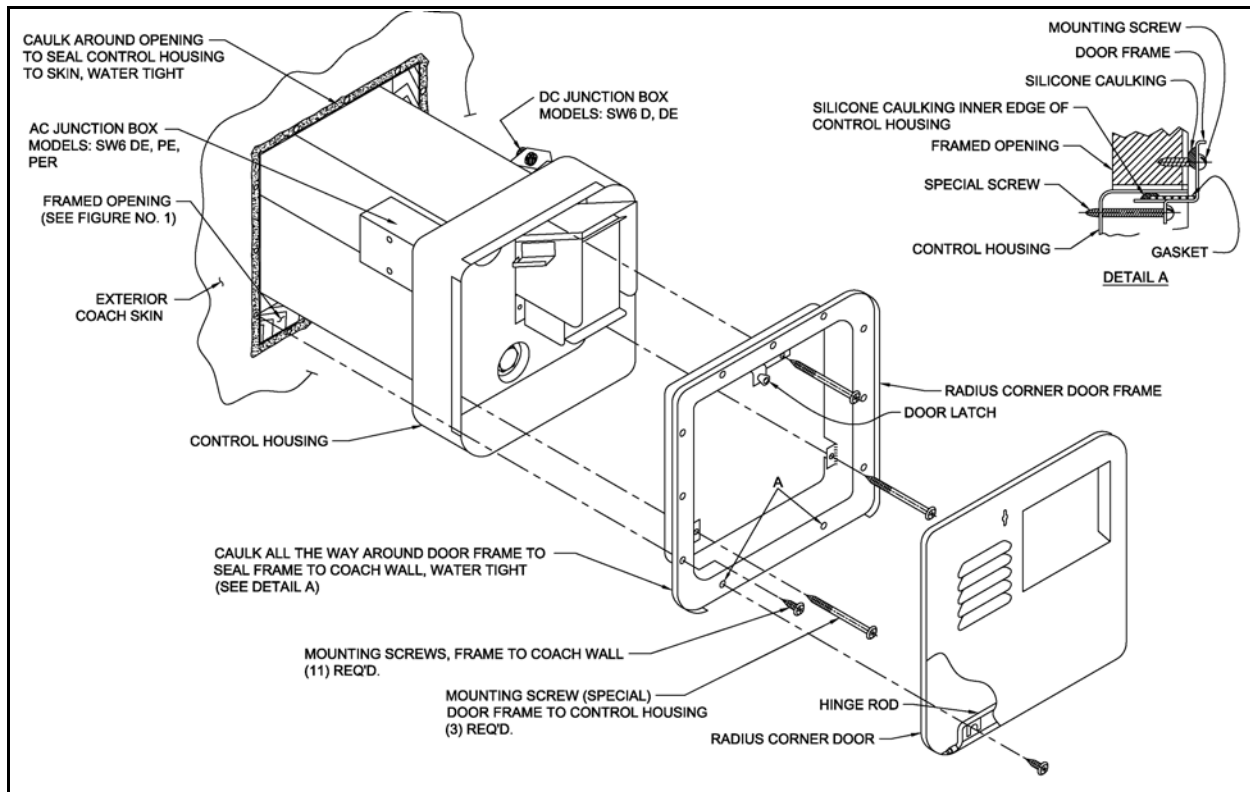

Figure 3
(See Figure 3 for illustration)
F. Fit the door frame into control housing (over the caulking already applied) and pull frame tight to control housing using the three (3) No. 8-15 x 3 1/2" screws provided.
G. Push water heater into framed opening until back side of door frame (now attached to control housing) is against the side of the coach and firmly attach with screws around the perimeter of the frame. NOTE: The two (2) holes in bottom of frame identified as "A" in Figure 3 are also used to mount door hinge to the frame.